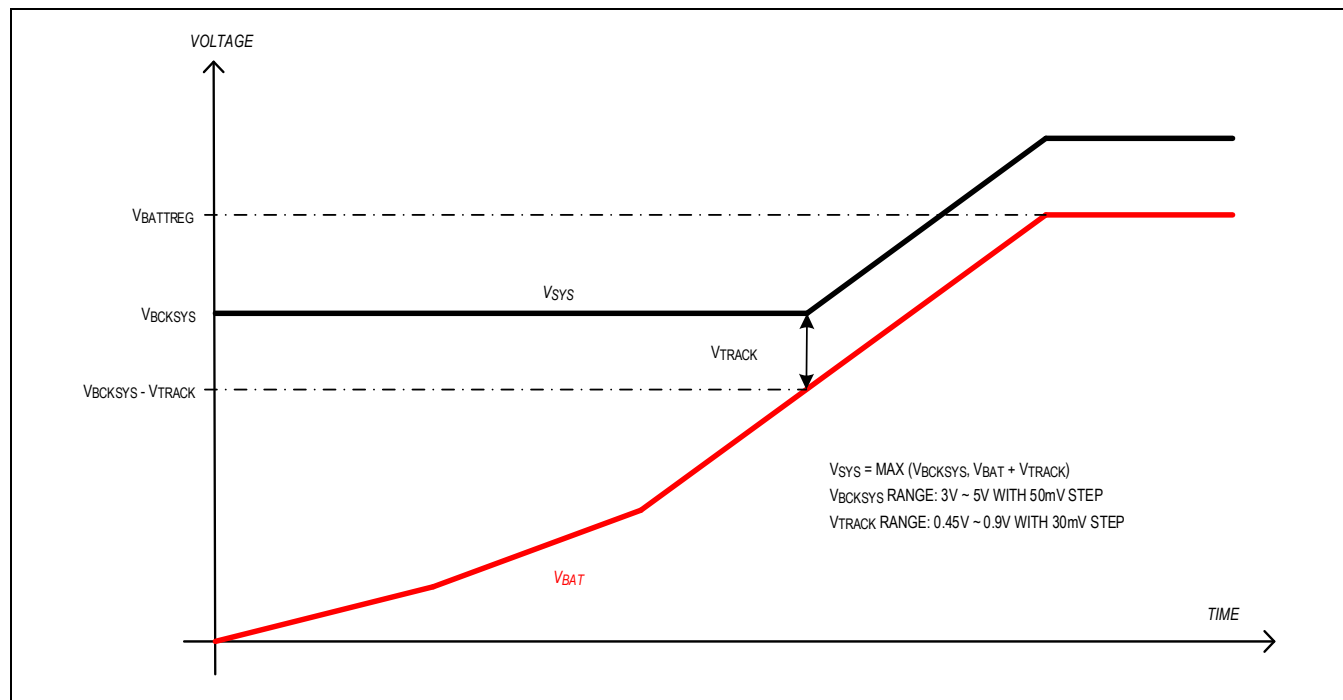

Figure 2. MODE 0x4
- In MODE 0x4, the DC-DC is enabled as a Buck and the charger is disabled,  $Q_{BAT}$  is off and  $V_{SYS}$  is regulated by the BCKSYS register as shown in Figure 2.